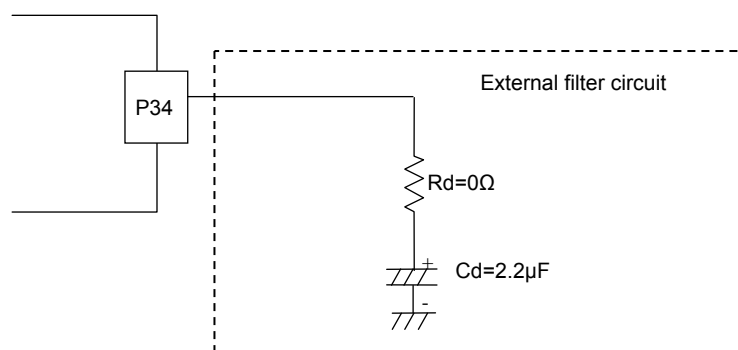

Figure 3.20.3 Internal-PLL External Filter Circuit for the USB Interface
- <1> Set both VCOSTP and CMPSTP to 0 when generating the 48 MHz clock for the USB using the internal PLL. In this case, set bit 4 (P34DDR) of P3DDR (FE4DH) and bit 4 (P34) of P3 (FE4CH) to 0. In addition, it is necessary to connect the external filter circuit shown in Figure 3.20.3 to the P34/UFILT pin.